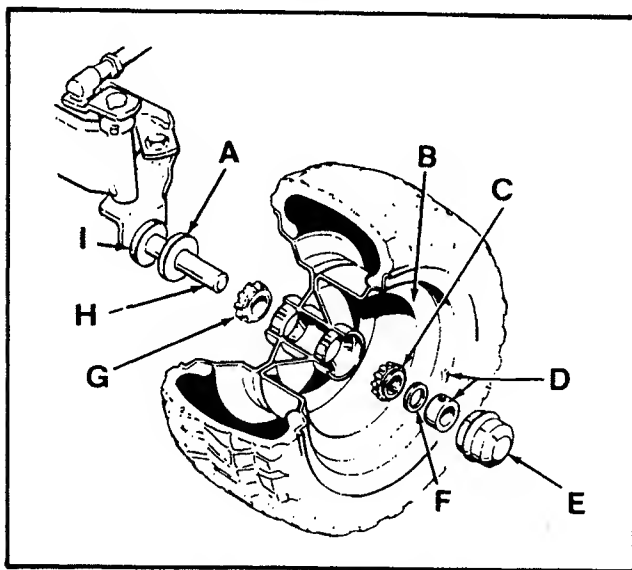

FIGURE 8 - Repack Front Wheel Bearings
2. Pry off grease cup with a screwdriver or a claw hammer (Figure 8).